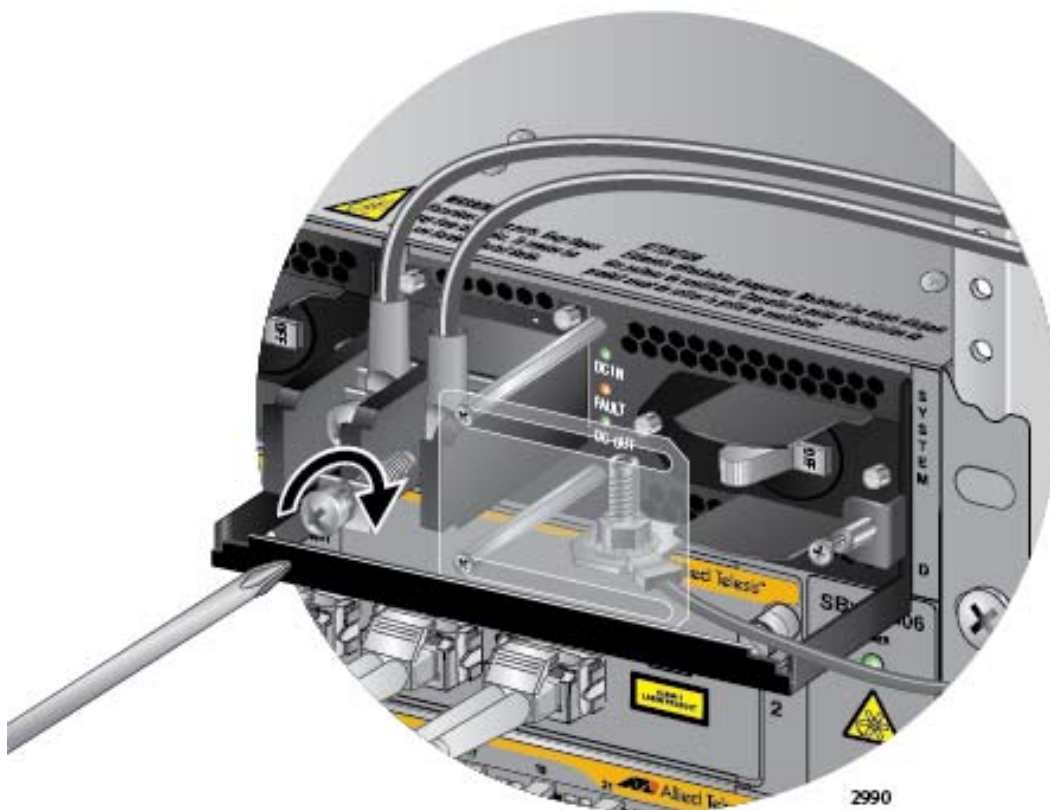

Figure 147. Connecting the Negative (-) Power Wire with a Straight Terminal
7. With a #3 Phillips-head screwdriver, connect the negative (-) power lead wire to the negative terminal on the power supply, with the remaining terminal screw removed in step 5. The negative terminal is on the right. You may attach the terminals with the wires either above or below the terminal block. Figure 147 on page 224 shows the wires above the terminal block.